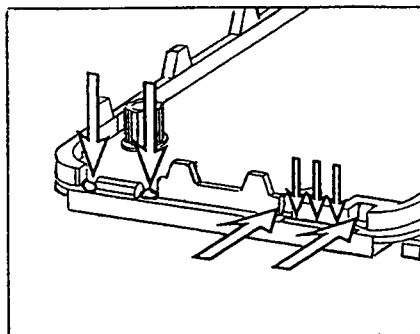

Figure 3-2. Applying sealant to the bottom bezel
- c. If the sealant on the bottom bezel is not intact, add sealant to the sensor connector cutouts. See Figure 3-2.